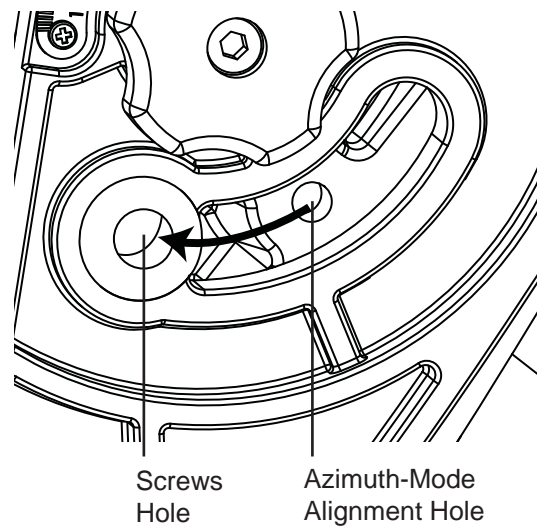

Fig. 2.4b
3. Jack up the R.A. axis's elevation until it reaches approximately 88 degrees and the jack-screw will disengage entirely. Lift the counterweight rod to align the azimuth-mode alignment hole with the upper screw hole on the left sidewall (Fig. 2.4b). Use the longer knurled screw to connect these two holes and tighten it with a 5mm Allen wrench.